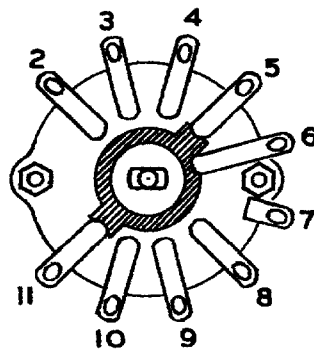
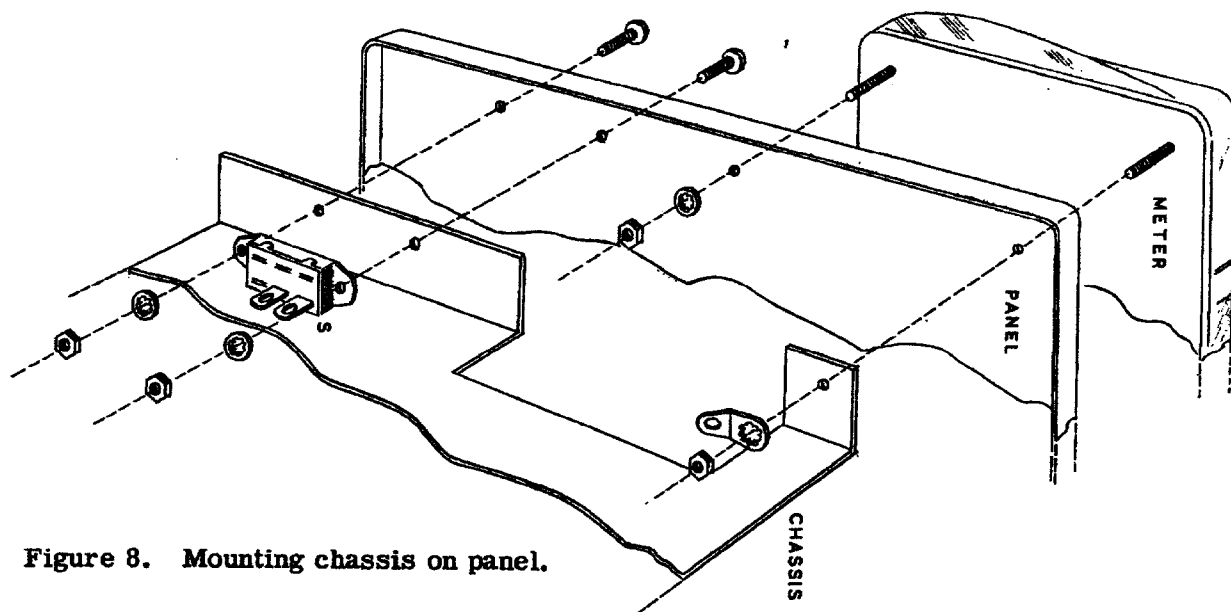

Figure 6. Range switch terminal numbering.
Figure 8. Mounting chassis on panel.
- () Connect one lead of a 0.1 μfd plastic tubular condenser to R2 on the range switch (S). Refer to Figure 6 for numbering of contacts on the switch. Any "outside foil" or "ground" markings on paper capacitors can be disregarded. They may be connected with either "polarity."
- () Connect the other lead of the condenser to N2 (NS).
- () Connect one lead of a 0.01 μfd plastic tubular condenser to R3 on the range switch (S).
- () Connect one lead of a 1000 $\mu\mu\text{f}$ (.001 μfd) mica condenser to R4 of the range switch (S).
- () Connect one lead of a 100 $\mu\mu\text{f}$ (.0001 μfd) mica condenser to R5 of the range switch (S).
- () Connect the other lead of the condenser to N2 (S).
- () Mount the chassis on the panel using the meter screw in location MG for the top bracket of the chassis. Under the nut mount a #6 solder lug. Refer to Figure 8.
- () Mount the SPST slide switch in location S. Use 6-32 screws, lockwashers and nuts. These screws pass through the panel, chassis and switch. Refer to Figure 8.